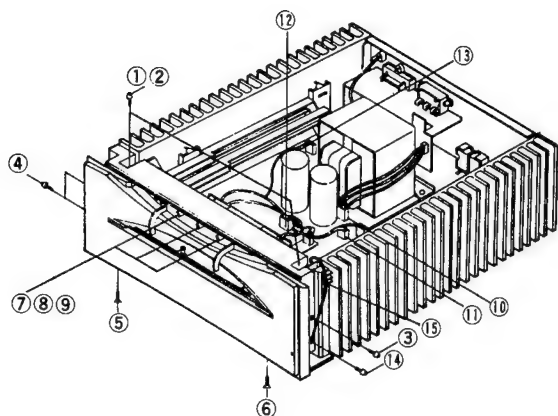

Fig. 6
1. Remove the rotary knobs ⑦ to ⑨ in Fig. 6
2. Remove connectors ⑩ to ⑬ in Fig. 6
3. Remove screw ⑭ and then unite the ground wire ⑰ in Fig. 6
4. Remove screws ① to ⑥ in Fig. 6, and then remove the front panel assembly by pulling it toward you gently.